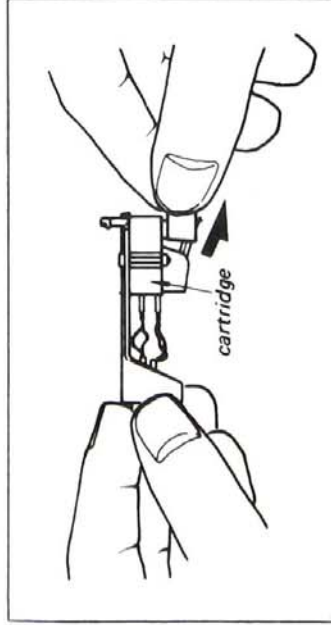

Fig. 2-7. Stylus tip replacement
2. Pull off the worm-stylus tip in the arrow direction as shown in Fig. 2-7, and insert the new stylus (ND-132G) into the cartridge.